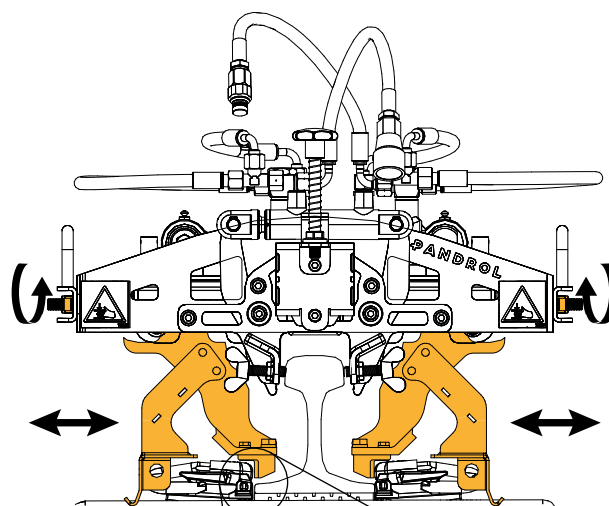

Fig 45.
1. On a sleeper with clips, carefully operate to perform declipping. Ensure that the arm does not touch the isolator Fig 45.